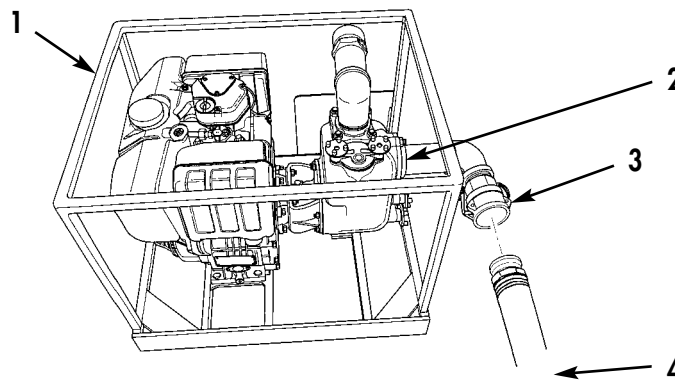

Figure 4. Suction Hose Connection.
10. Position pump unit (Figure 4, Item 1) approximately 15 ft (4.6 m) from drums with FQD coupling (Figure 4, Item 3) facing drums.
11. Remove plug and cap, and connect 2 in. (51 mm) DIA x 10 ft (3 m) long suction hose assembly (Figure 4, Item 4) to FQD coupling (Figure 4, Item 3) on suction port (Figure 4, Item 2) of pump (Figure 4, Item 1).